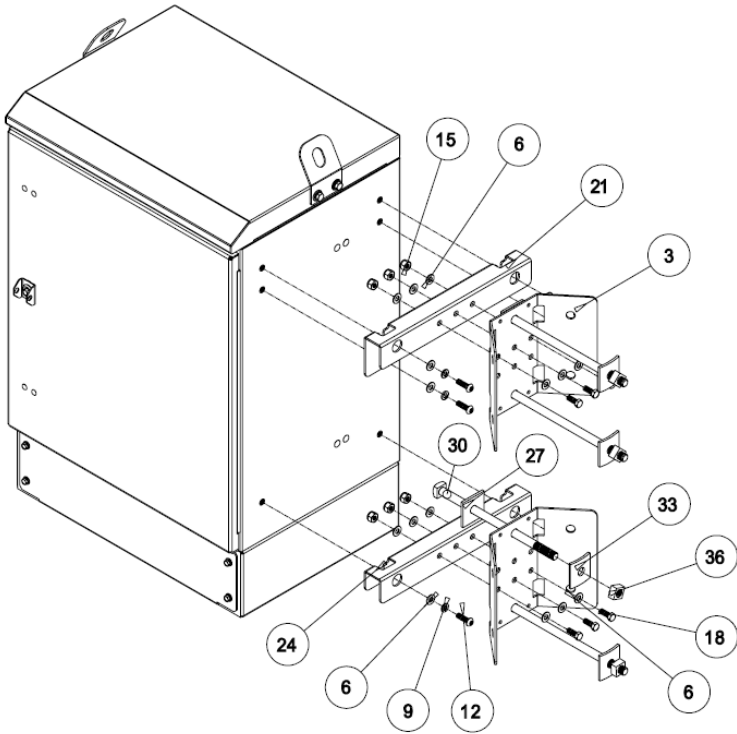

Figure 6: Pole Mounting Diagram
Use this procedure to mount the cabinet on an 8 to 14 inch diameter wooden pole. See figures 6 and 7 on previous pages.
3. Install the pole mounting template as an aid. Drill four (4)  $\frac{3}{4}$ " diameter holes in the pole per the dimensions in Figure 7 for the four (4)  $\frac{5}{8}$ " bolts (item 30 in Figure 6).
4. Insert machine bolt (item 30) through mounting bracket and into the mounting hole and press bolt and bracket flush against the pole.
5. Place round-cupped washer (item 33), with the concave side in, on bolt and finger tighten nut.
9. Engage the four (4)  $\frac{3}{8}$ " cap screws (item 12), which slide into the keyed slots provided in the horizontal brackets, into the cabinet as shown in the diagram.
11. Once cabinet is securely in place, install the remaining 3/8" cap screws (item 12) on the upper pole mount bracket.